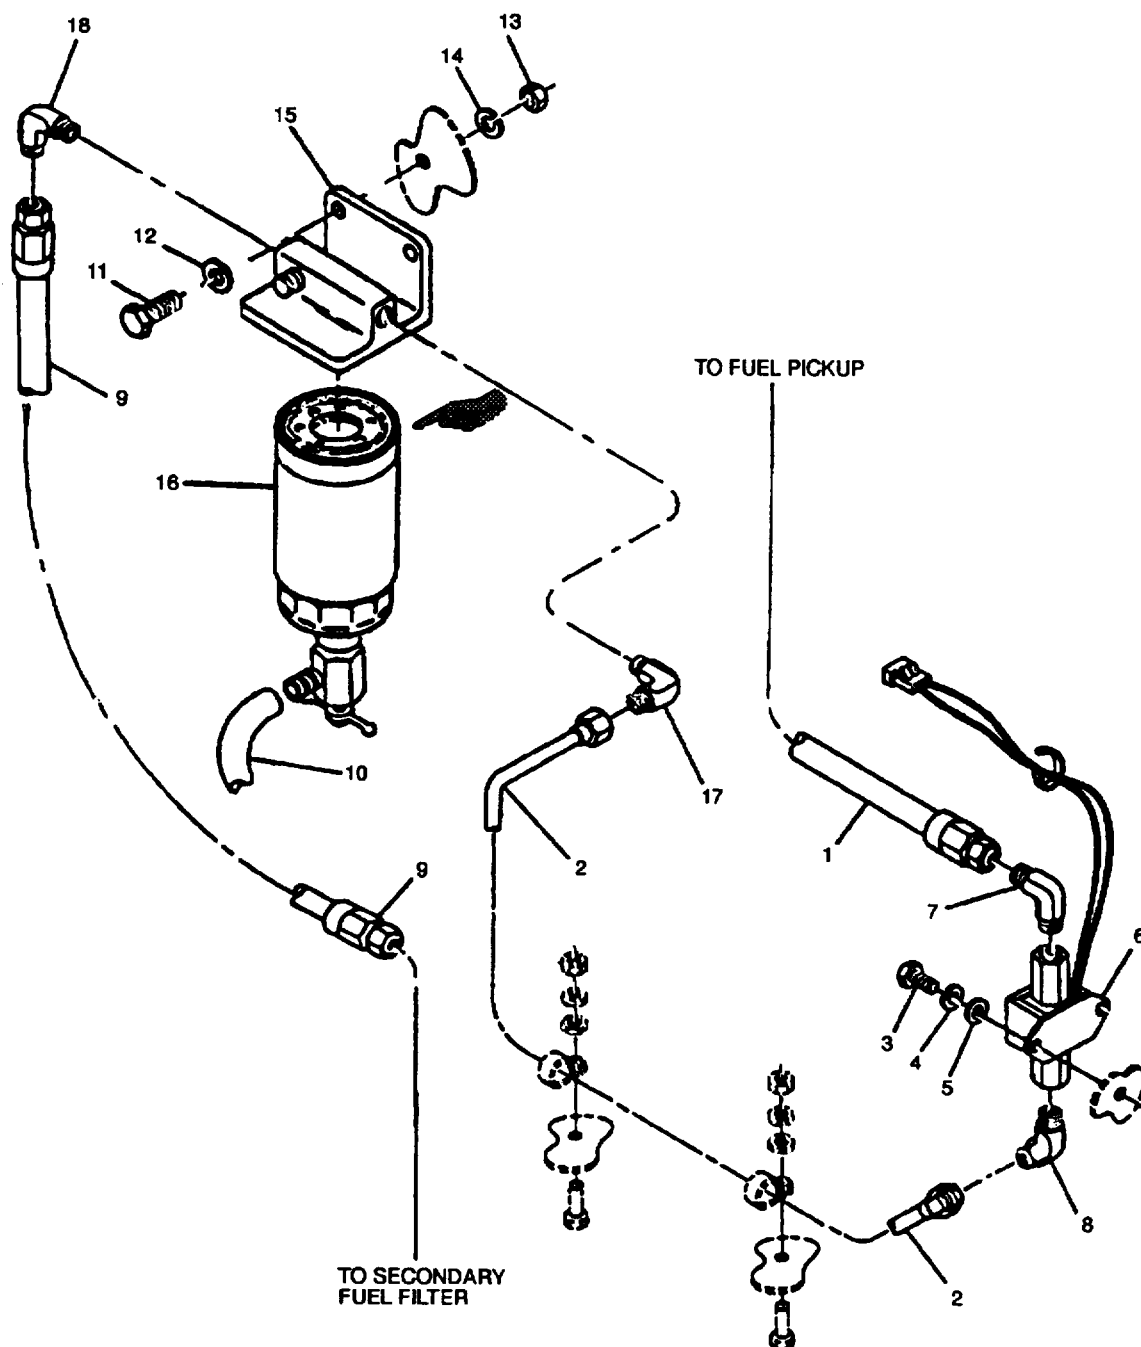

FIGURE 2-22 Fuel Filter/Water Separator and Transfer Pump
- c. Inspect fuel transfer pump (6, FIGURE 2-22) for leaks, cracks, missing hardware, and loose connections.
- b. Open left side engine access door and disconnect fuel transfer pump outlet line (2, FIGURE 2-22) at secondary fuel filter. Place line end in measuring container.
- f. Connect fuel line (9) to secondary fuel filter.
- d. Tag and disconnect fuel transfer pump (6, FIGURE 2-22) electrical connector.
- e. Disconnect inlet fuel hose (1) from fuel transfer pump (6). Cap hose.
- f. Disconnect outlet fuel tube (2) from fuel transfer pump (6). Cap tube.
- g. Remove bolts (3), lockwashers (4), washers (5), and fuel transfer pump (6) from generator set.
- h. Remove fittings (7) and (8) from fuel transfer pump (6).
- a. Install fittings (7 and 8, FIGURE 2-22) in fuel transfer pump (6).
- b. Install fuel transfer pump (6) with bolts (3), lockwashers (4), and washers (5).
- c. Remove caps and connect fuel hose (1) and fuel tube (2) at fuel transfer pump (6).
- e. Disconnect fuel outlet line (9, FIGURE 2-22), inlet line (2), and water drain line (10) from fuel filter/water separator assembly. Cap all lines.
- f. Remove bolts (11), washers (12), nuts (13), lockwashers (14), and fuel filter/water separator assembly from generator set.
- h. Remove fittings (17) and (18) from base (15).
- a. Install fittings (17 and 18, FIGURE 2-22) in base (15).
- c. Install fuel filter/water separator assembly in generator set with bolts (11), washers (12), lockwashers (14), and nuts (13).
- d. Remove caps and connect water drain line (10), fuel outlet line (9), and fuel inlet line (2) to fuel filter/water separator assembly.
- c. Disconnect water drain line (10, FIGURE 2-22) from element (16).
- d. Unscrew and remove fuel filter/water separator element (16) from base (15).
- b. Apply a film of engine oil (item 16, appendix C) to the sealing surface of fuel filter/water separator.
- c. Install fuel filter/water separator element (16, FIGURE 2-22) on base (15). Hand tighten only.
- d. Connect water drain line (10) to element (16).